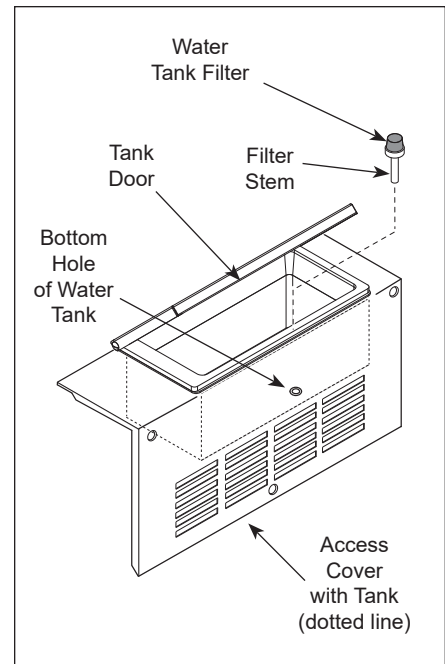

Figure 10. Water Tank Filter
The Water Tank Filter (Figure 10) is used to prevent solids or food products from entering and damaging the water pump. Inspect and clean the Filter monthly or more regularly using the following procedure:
2. Open the Tank Door (Figure 10).
5. Reinstall the Filter Stem into the bottom hole of the tank (Figure 10).